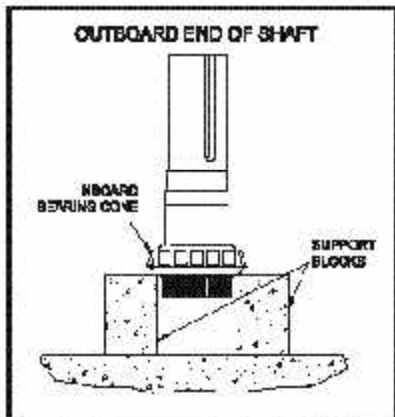

Figure 6.3.3.2—Removal of Outboard Bearing Cone (Option #1)
10. To remove the inboard bearing from the shaft, one of two procedures can be used. 1.) Support the shaft by the bearing cone with the outboard end of the shaft facing up. With an arbor press or hydraulic press, press down on the inboard end of the shaft; reference Figure 6.3.3.2. 2.) With a hammer and punch, carefully strike the bearing cone towards the outboard end of the shaft; reference Figure 6.3.3.3, next column.